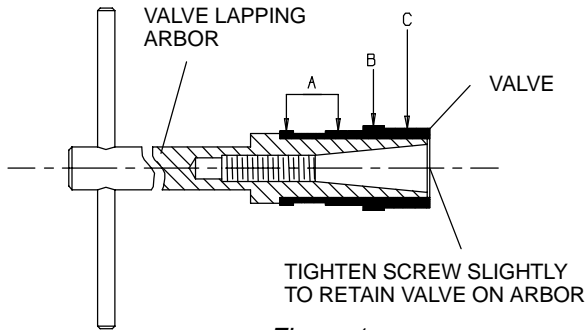

Figure 1
1. An **oversize Valve (2)** must be lapped into the **Valve Box**. Use Grade 320 lapping compound and proceed as follows:
- a. Install the Valve on the No. 29189 or No. 29407 Valve Lapping Arbor as shown in Figure 1.